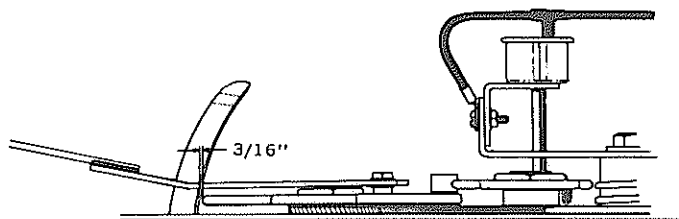

Fig. 21
1. Use the manual control to advance the knotter until the point of the twine finger is just passing the inside edge of the needle. The point of the twine finger should clear the needle $\frac{3}{16}$ inch, see **Fig. 21**.